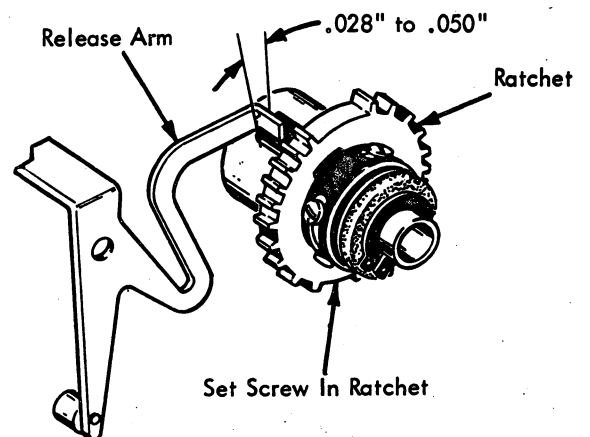

FIGURE 67.1 Shift Clutch Ratchet Adjustment
- 2.1 Shift Clutch Ratchet Adjustment (Late) (Fig. 67.1) - Adjust the shift clutch ratchet to satisfy the following condition. With the machine turned off and the shift cam detented, the shift clutch ratchet will rotate .028" to .050" when the shift release arm releases the ratchet. The rotation can be observed relative to the shift release arm and the shift cam stop. Be sure to loosen the set screw in the ratchet before adjusting. **Note:** Remove play from the shift ratchet in a clockwise direction before checking this adjustment.